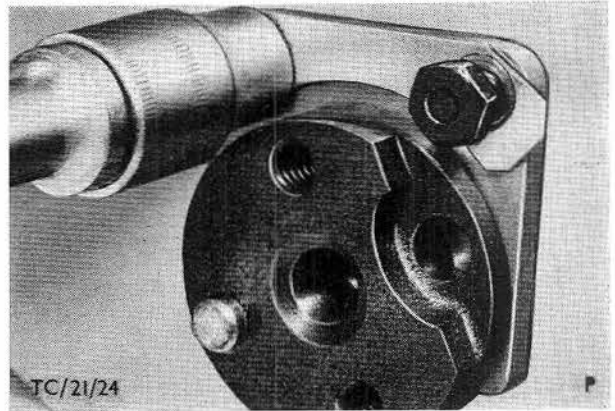

Fig. 29. Remove camshaft thrust plate.
23. Remove camshaft thrust plate (2 bolts), Fig. 29.